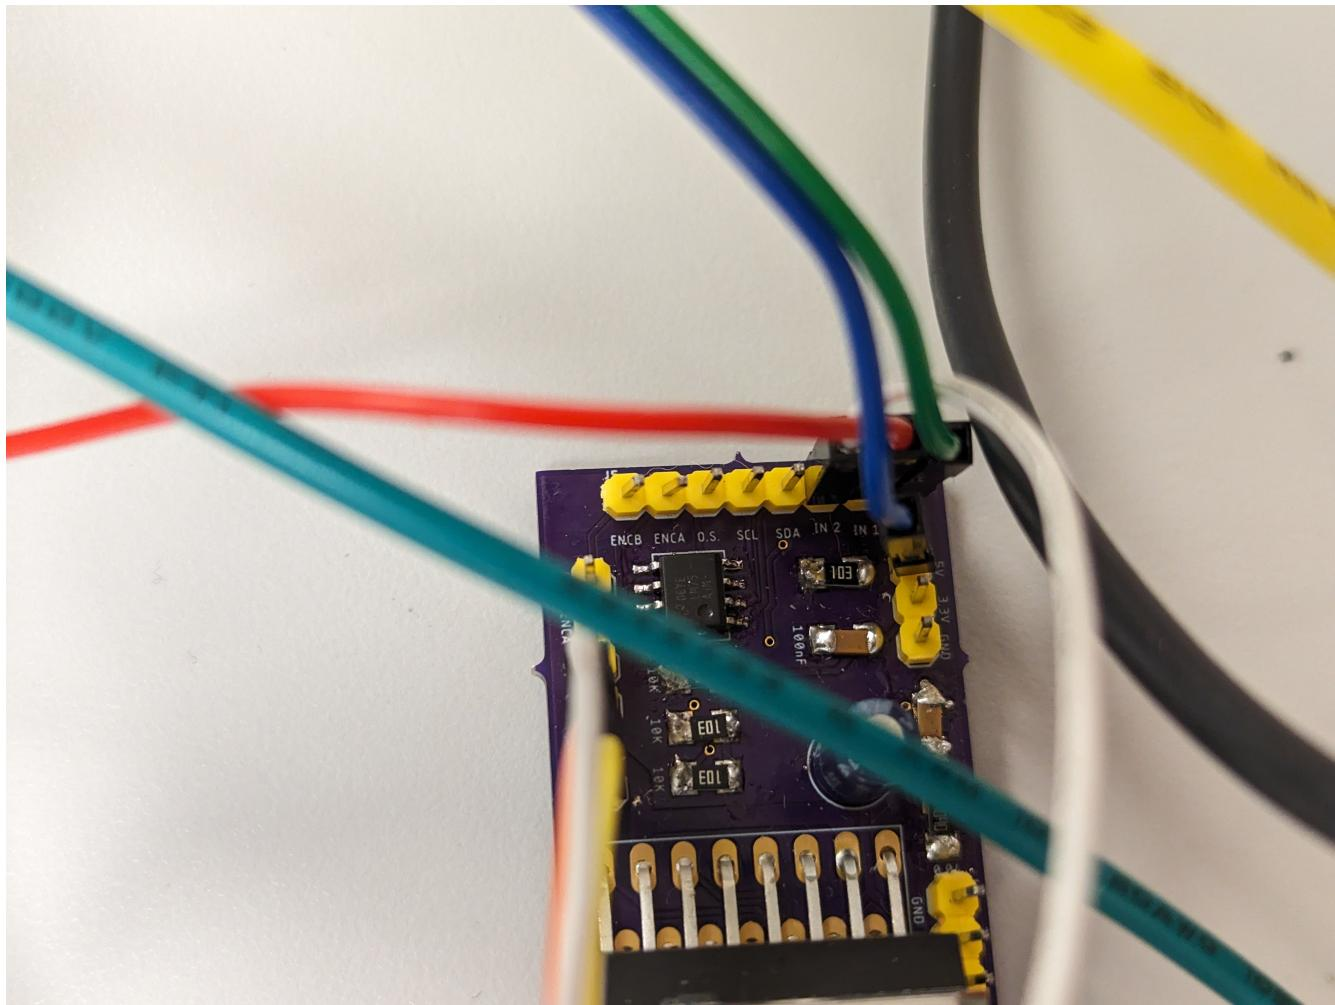

Figure 3: In1 and In2 connect to the two voltage sources for logic on the board. The Enable pint (green wire) is connected to 5V to activate the H-bridge
- One H-bridge is needed for each valve and the pump. Their connections are shown in figures 3 and 4.